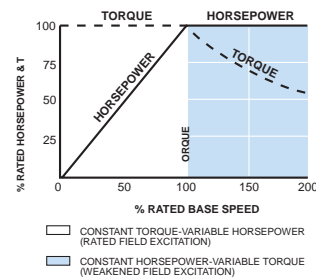

FIGURE 6.
Armature voltage controlled DC drives are constant torque drives. They are capable of providing rated torque at any speed between zero and the base (rated) speed of the motor as shown by Figure 6. Horsepower varies in direct proportion to speed, and 100% rated horsepower is developed only at 100% rated motor speed with rated torque.
**Armature Controlled DC Drives** – Certain applications require constant horsepower over a specified speed range. The screened area, under the horsepower curve in Figure 6, illustrates the limits of constant horsepower operation for armature controlled DC drives. As an example, the motor could provide constant horsepower between 50% speed and 100% speed, or a 2:1 range. However, the 50% speed point coincides with the 50% horsepower point. Any constant horsepower application may be easily calculated by multiplying the desired horsepower by the ratio of the speed range over which horsepower must remain constant. If 5 HP is required over a 2:1 range, an armature only controlled drive rated for 10 (5 x 2) horsepower would be required.
**Field Controlled DC Drives** – Another characteristic of a shunt-wound DC motor is that a reduction in field voltage to less than the design rating will result in an increase in speed for a given armature voltage. It is important to note, however, that this results in a higher armature current for a given motor load. A simple method of accomplishing this is by inserting a resistor in series with the field voltage source. This may be useful for trimming to an ideal motor speed for the application. An optional, more sophisticated method uses a variable voltage field source as shown by Figure 6. This provides coordinated automatic armature and field voltage control for extended speed range and constant HP applications. The motor is armature voltage controlled for constant torque-variable HP operation to base speed where it is transferred to field control for constant HP-variable torque operation to motor maximum speed.